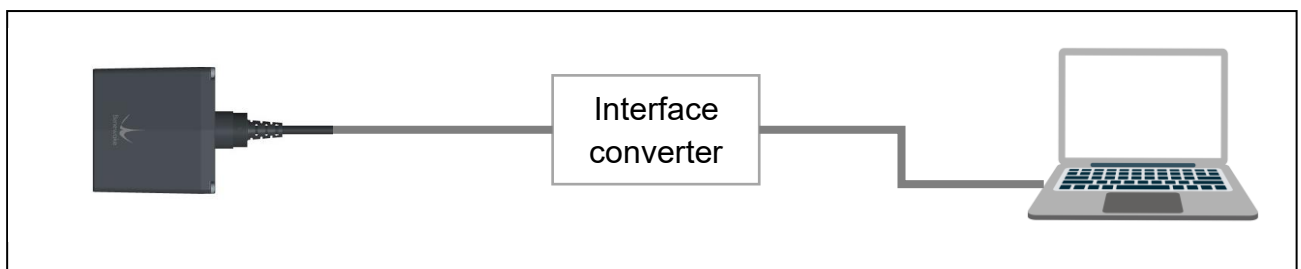

Figure 17 TF03 connecting to PC
- Connect TF03 to the PC or laptop with a **paired USB converter** cable as shown in *Figure 17 TF03 connecting to PC*. The UART version TF03 needs a UART-USB converter, and the CAN version TF03 needs a CAN-USB converter.